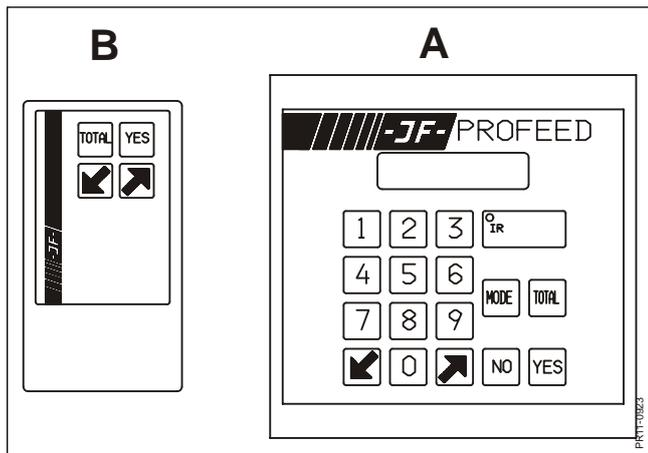

Fig. 7.1
**Fig. 7.1** PROFEED is an electronic unit (A), to be built into the existing weighing instrument on your JF-Feeder, unless the Feeder has been delivered with PROFEED as standard. A 4-channel remote control (B) is delivered as standard, which ensures that the user has complete control of the system during filling of forage.